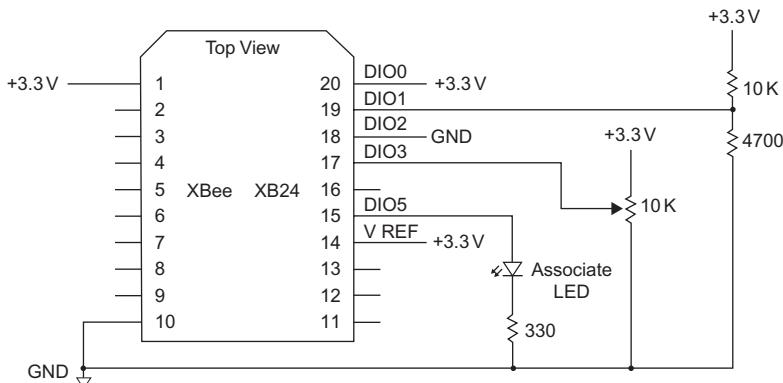
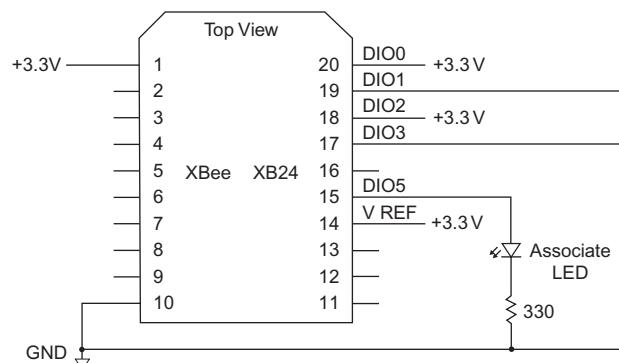

FIGURE 20.1 Circuitry needed to provide an End-device module with two digital and two analog inputs.
FIGURE 20.2 Minimum added circuitry for a second, or other End-device modules.
Step 3. Place one of your End-device modules in an XBee adapter on your solderless breadboard and add the components shown in Figure 20.1. If the module has any other components or wires attached to it, please remove them now. The two digital inputs and two analog inputs provide information this End-device module will transmit to the Coordinator module.
Step 4. If you have configured more than one End-device module, ensure you have turned off power to your breadboard and place the second End-device module in an XBee adapter and insert it into your solderless breadboard. Connect the LED-and-resistor circuit at this module's DIO5 – Associate pin (pin 15) as shown in Figure 20.2. Then add the other connections to ground and +3.3 volts as shown in the same figure. If this XBee adapter has any other components or wires connected to it, remove them now. If you have more than two End-device modules, I recommend you place additional End-device modules in separate solderless breadboards.
Step 5. After you have set up the circuitry shown in Figure 20.1—and in Figure 20.2 for additional End-device modules—turn on power to these modules. The End-device XBee module or modules should associate with the Coordinator attached to your PC, and the LED at each End-device module should flash to indicate proper network association. Use the X-CTU Terminal window to send an ATND command to the Coordinator to ensure it can discover all End-device modules, which should respond with their addresses. Remember these hexadecimal addresses do not include leading zeros.
Turn off power to the breadboard and leave the End-device module with the resistors and potentiometer attached to it in the breadboard (see Figure 20.1). Remove the Coordinator module from the USB-to-XBee adapter, and set it aside.
If you have set aside a second End-device module, you can place it in another breadboard and add the connections shown earlier in Figure 20.2. You also could place an additional End-device module in the USB-to-XBee adapter. This XBee module would obtain power through the USB cable, but it will not communicate with the PC.
Important: The code also assumed a 3.3-volt reference for the analog-to-digital converter in the End-device module wires as shown in Figure 20.1. If you use a different external voltage reference, say 2.5 volts, change the `Vref` declaration in the code to your reference voltage: